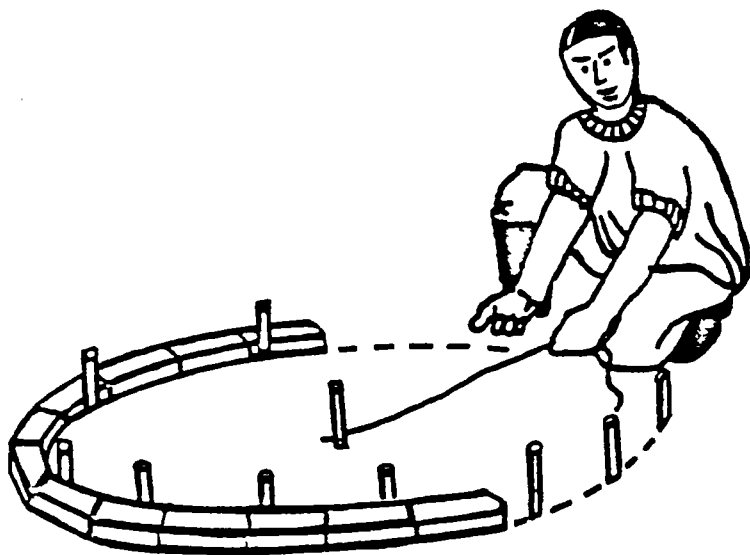

Figure 6. Marking out the well cover
- Mark out the slab on the ground with bricks so that it is big enough to cover the well lining. Line the marked area with plastic sheet or cement bags. Reinforce the cover slab with a grid made of 6-9 mm reinforcing steel rod, set about 100 mm apart, leaving a hole for the bucket or handpump to pass through (see Figure 6).